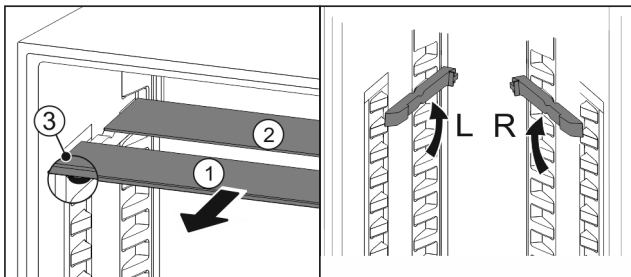

Fig. 22
- Pull the glass panels out Fig. 22 (1) from the front, one at a time.
- ▷ The glass panel Fig. 22 (1) and trim strip are at the front.
- ▷ The stops Fig. 22 (3) point down.